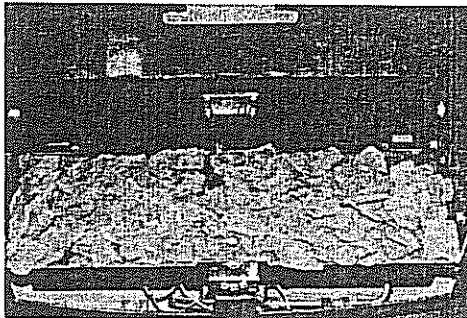

Fig. 1 Embers layout.
- (i) Lay the embers on top of the white ceramic mat as shown in fig 1. Making sure the pilot is not covered